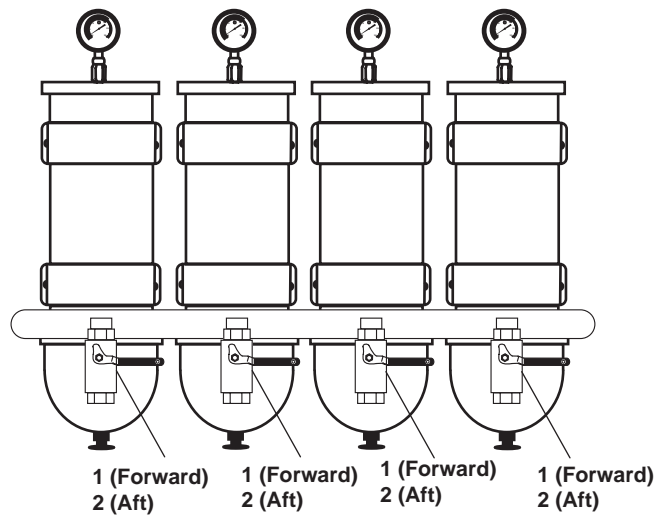

Figure 7. Racor Valves
- f. Four Racor fuel supply cutoff valves (figure 7, item 1) and four Racor fuel discharge cutoff valves (figure 7, item 2) located at the forward inboard corner of the engine.